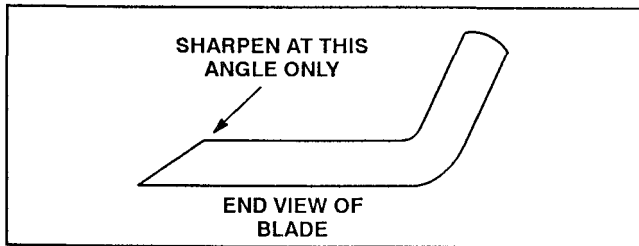

Figure 31
3. Examine cutting edges of all blades. Sharpen the cutting edges if they are dull or nicked. Sharpen only the top of the cutting edge and maintain the original cutting angle to make sure of sharpness (Fig. 31). The blade will remain balanced if same amount of metal is removed from both cutting edges.